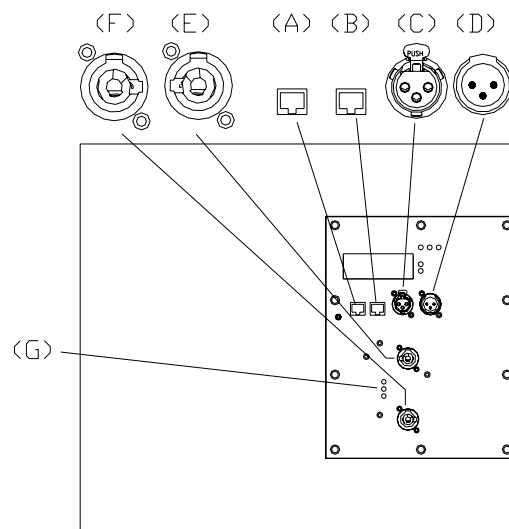
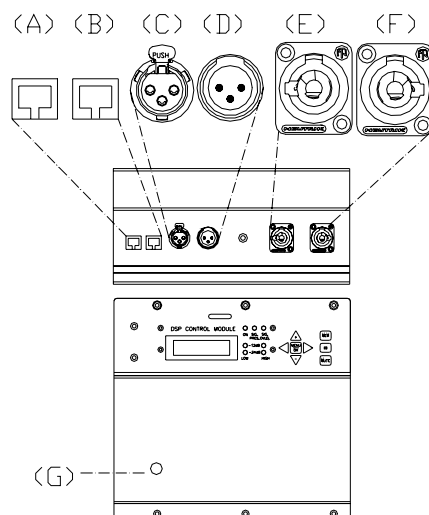

Fig.12. Connections panel for **MAW-115/D**
Fig.14. Connections panel for **MAW-215/D/2K**
When the Overvoltage LED lights (in RED) (Fig.9. **LED OVERVOLTAGE (G)**, Fig.12. **LED OVERVOLTAGE (G)**, Fig.14. **LED OVERVOLTAGE (G)**), the cabinet stops working (or works intermittently) until the correct voltage values are reached again.